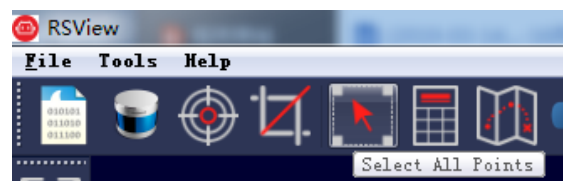

Figure C-12 RSView Select All Points Tool
8. Click the **Select All Points** tool, which turns your mouse into a data point selection tool (Figure C-12).